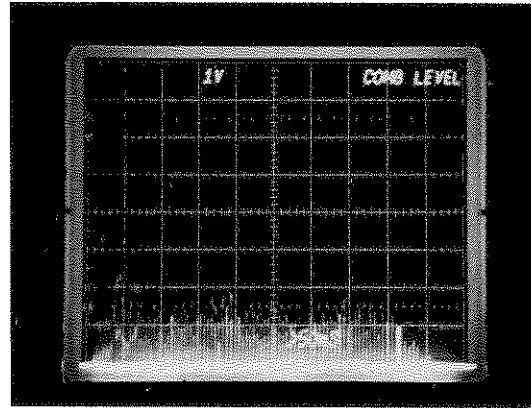

FIGURE 6-6
- (1) Set-up counter as described in paragraph 6-20c (1).
- (2) Jumper A203TP14, TP15, and TP16 together.
- (3) Connect Channel A 10X scope probe to A203TP12. Trigger scope from A203TP20 (Reset).
(4) Press RESET switch.
(5) Adjust A203R64 to level comb lines to 1 volt nominal (see Figure 6-6).
(6) Remove jumpers from TP14, TP15, and TP16.